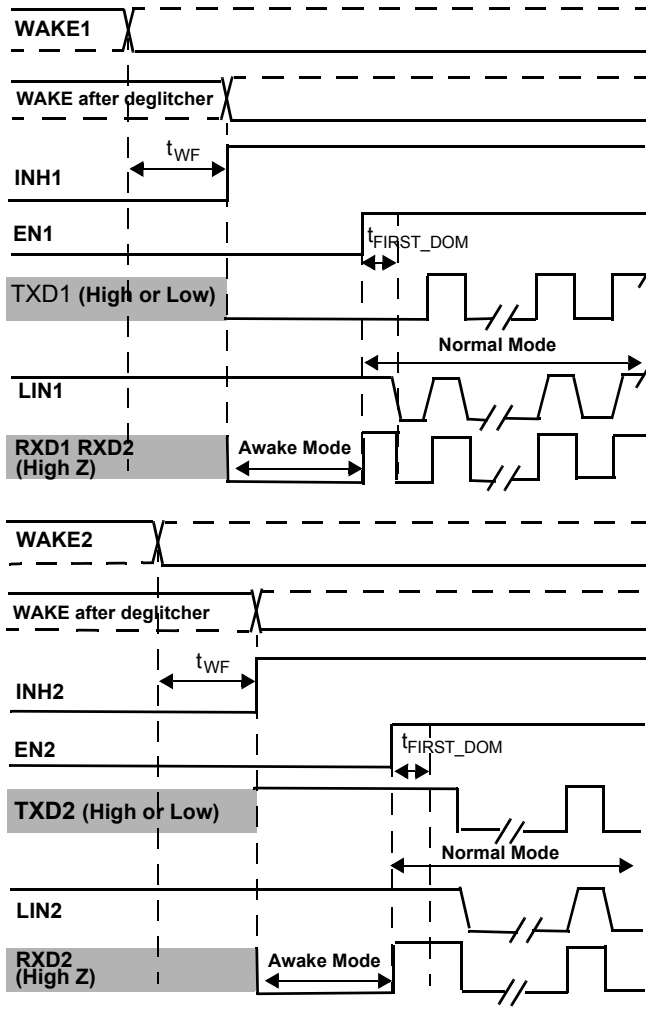

Figure 16. LIN Module 1 Wake1 Pin Wake-up with TXD1 Low & LIN Module 2 Wake2 Pin Wake-up with TXD2 High
- See Figures 16, 22, and 23
An internal filter is implemented to avoid false wake-up event due to parasitic pulses (See Figure 16). WAKE1 (WAKE2) pin input structure exhibits a high-impedance, with extremely low input current when voltage at this pin is below 27 V. Two serial resistors should be inserted in order to limit the input current mainly during transient pulses and ESD. The total recommended resistor value is 33 k Ω . An external 10 to 100 nF capacitor is advised for better EMC and ESD performances.